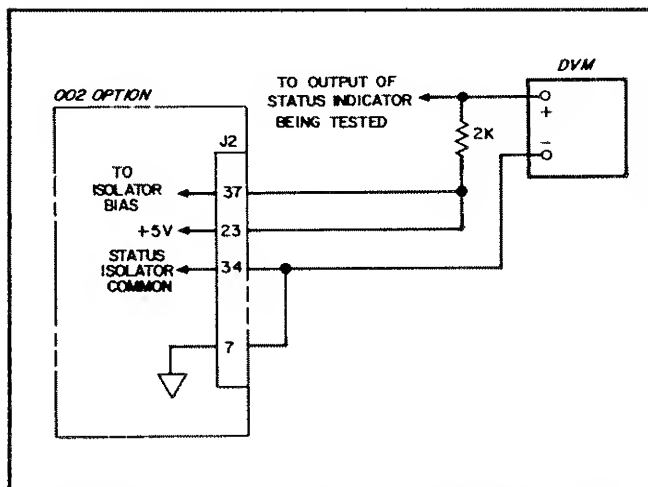

Figure A-12. Troubleshooting Status Indicators
**A-78 Troubleshooting Status Indicators.** The test set-up shown in Figure A-12 can be used to check each of the six status indicators. This set-up, however, will temporarily defeat the isolation of the status lines. Before attempting to troubleshoot a status indicator, check for +5 V at TP1 (+5 V INT). This voltage must be present for proper operation of the opto-isolators.